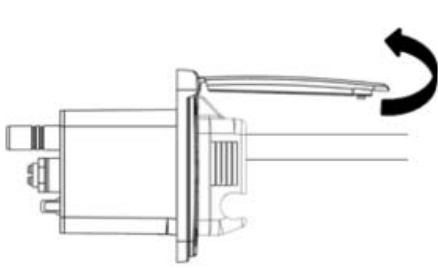

Fig. 7
- Fig. 7 Removing EP1612 & EP1312 plug